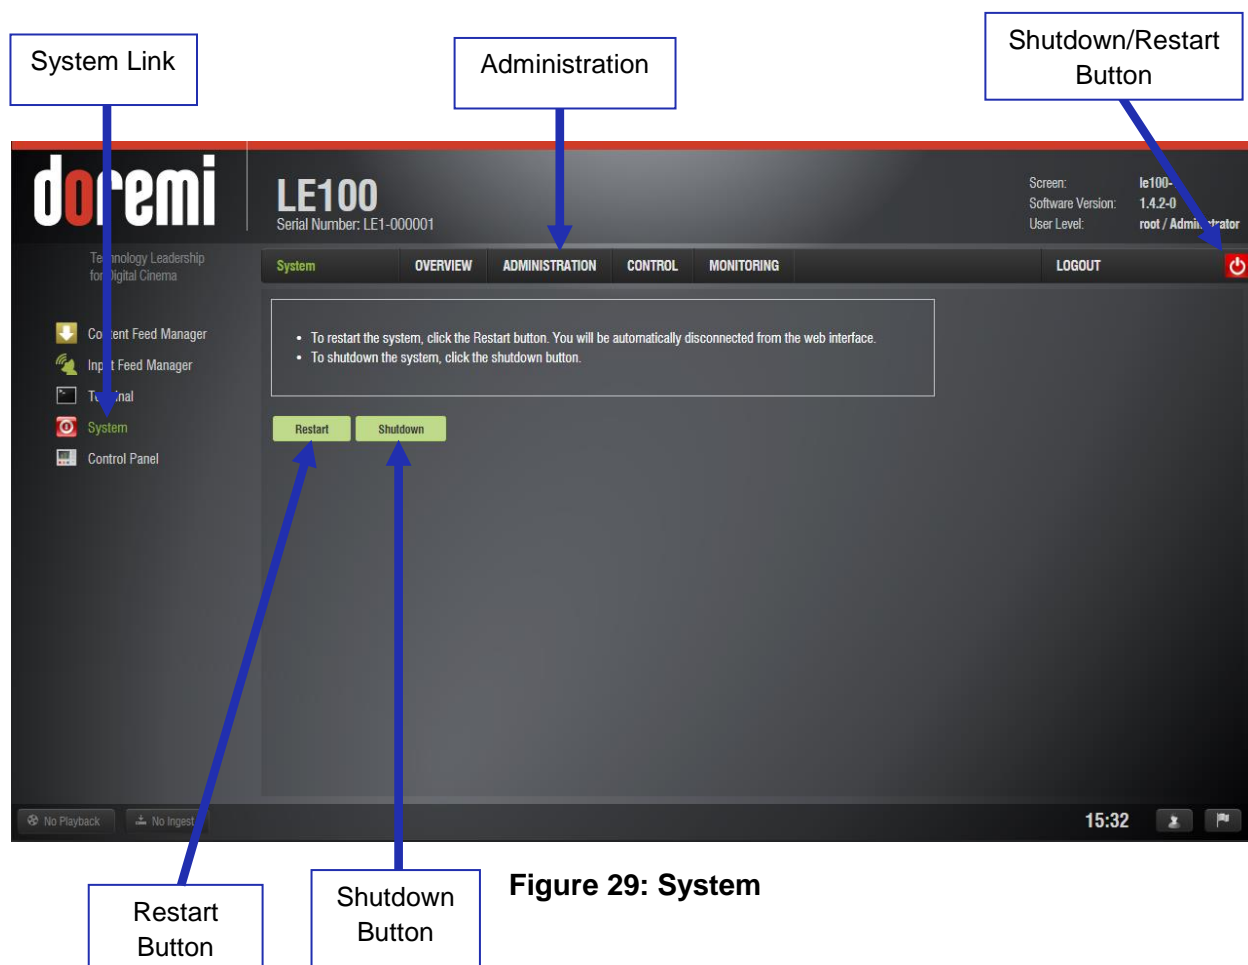

Figure 29: System
- Alternately, go to the Administration tab and click on the System link on the left. Then click on the Shutdown button (see Figure 29).
- Alternately, go to the Administration tab and click on the System link on the left. Then click on the Restart button (see Figure 29).